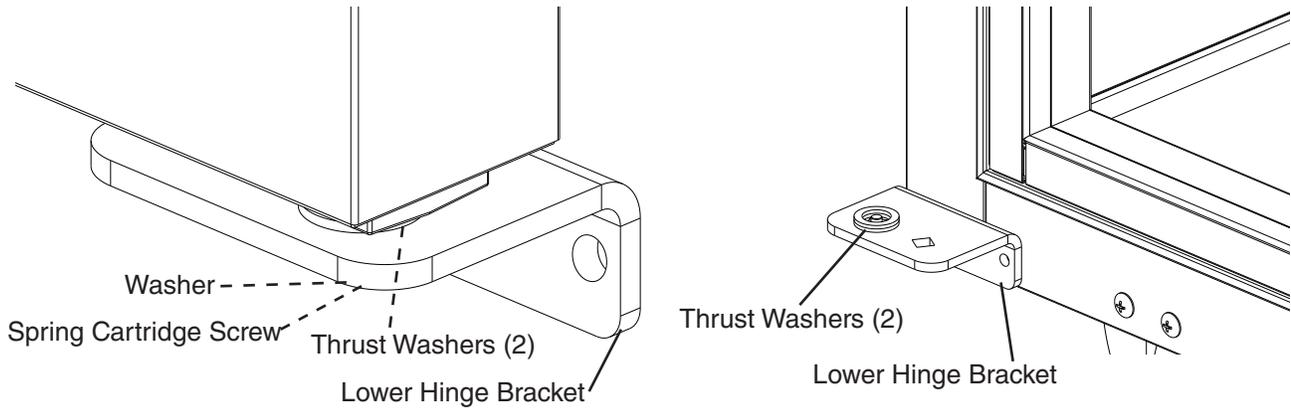

Fig. 31
- 9) Remove the lower hinge bracket spring cartridge screw, washer, and thrust washers from the door. Set the door aside. Next, secure the lower hinge bracket to the opposite side. Make sure the lower thrust-washers are in place. See Fig. 31.